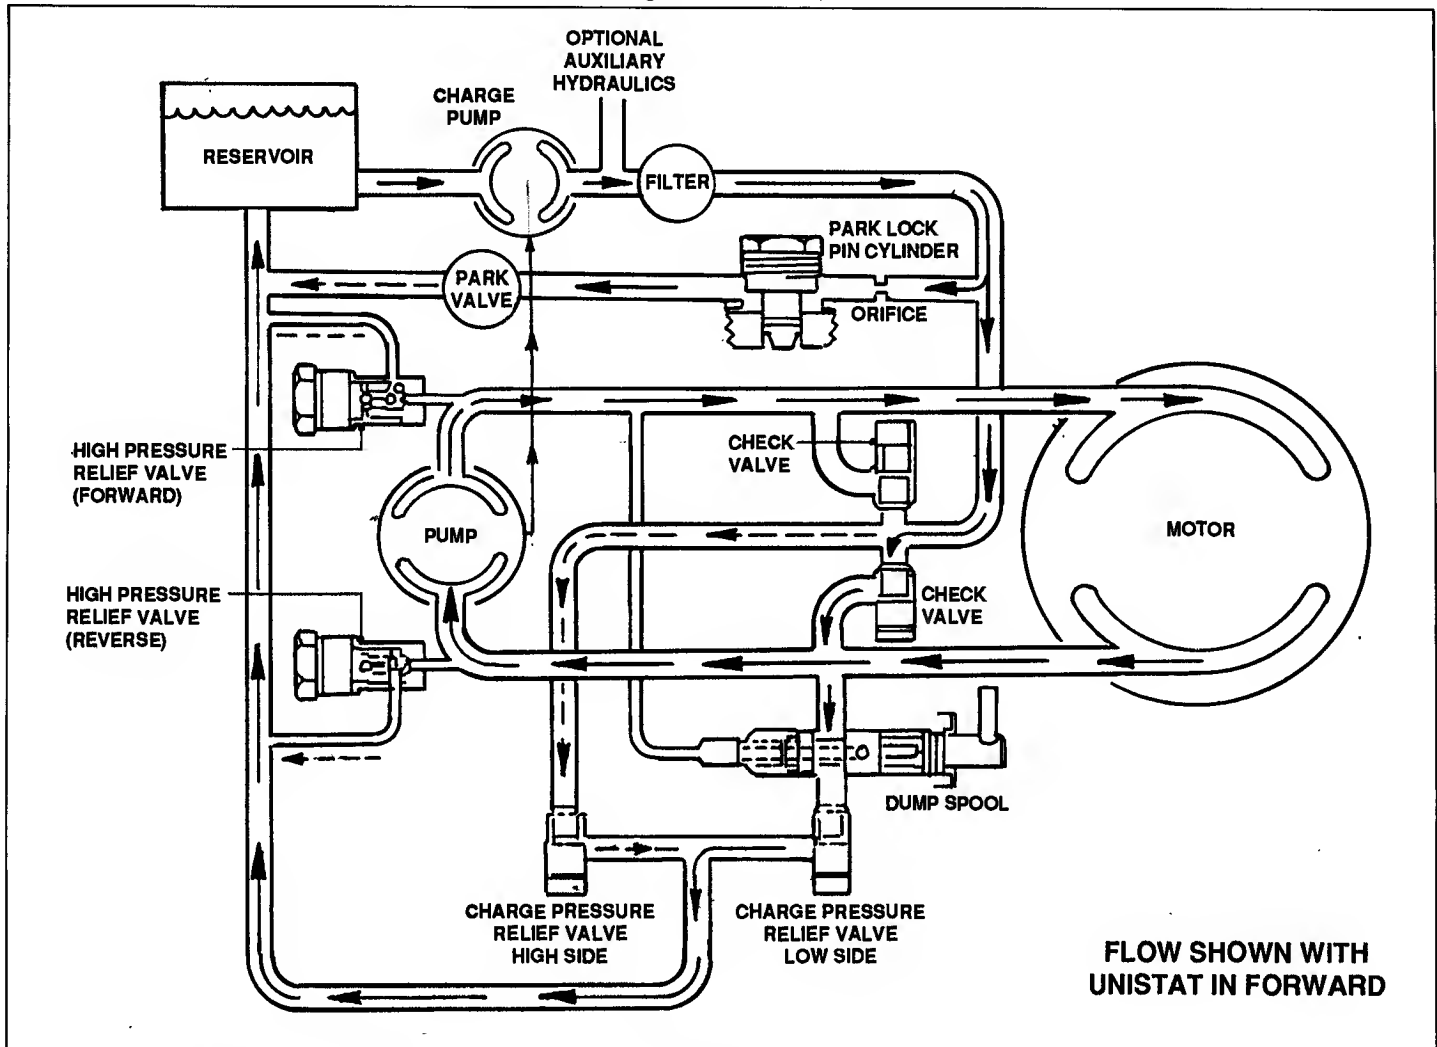

FIGURE 9.14
B. UNISTAT HYDRAULIC FLOW DIAGRAM. See Figure 9.14.